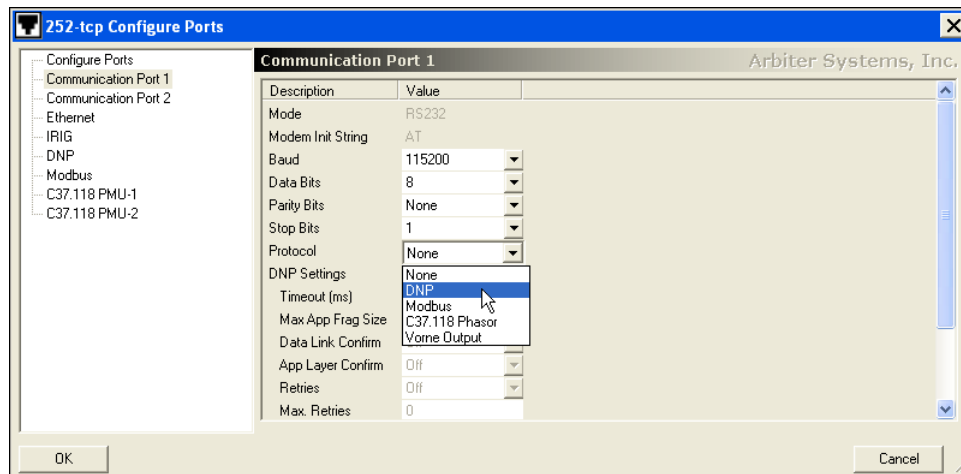

Figure 7.6: Selecting DNP in COM Port 1 Setting
2. Select Connection > Configure > Communication Ports or click the Communication Ports button. In the left panel, select the port that you wish to configure. Figure 7.6 shows Communications Port 1 selected with the Protocol drop down list revealed.